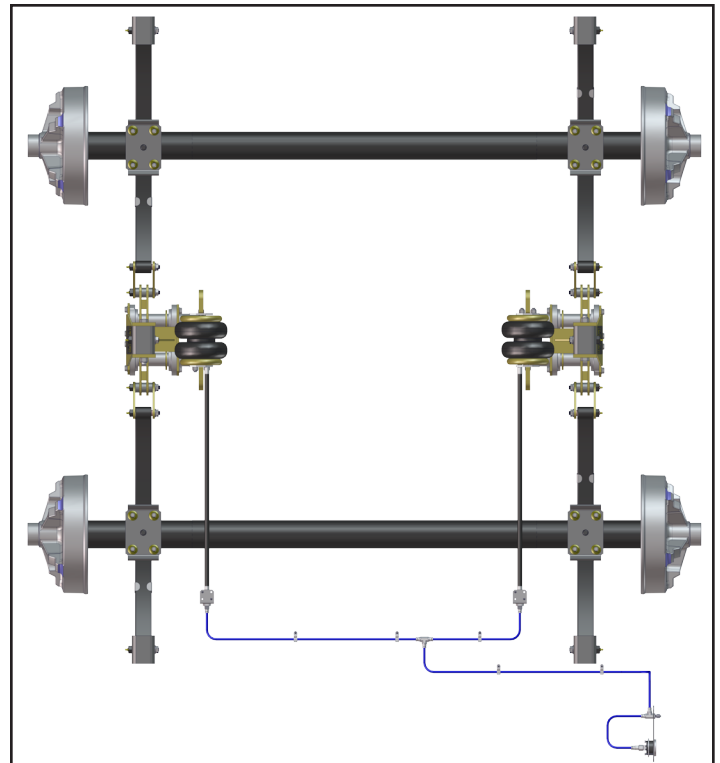
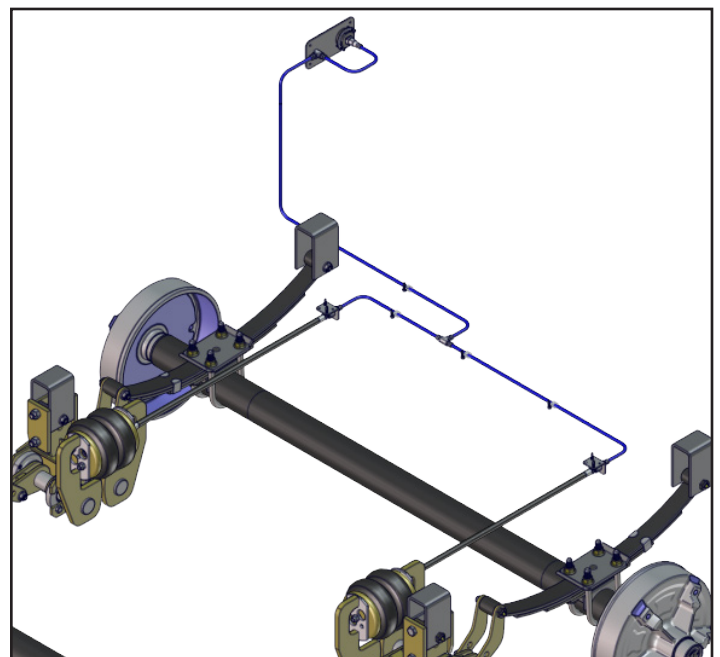

Fig.8
Fig.9
1. In order to ensure there is sufficient slack in the air hose, the clip placement is critical. The air spring will cycle forward and aft as much as 5" during the operation of the suspension in its reaction to extreme road conditions. Therefore, the clip must be secured on the frame with enough slack to allow the necessary movement. It must also be located so that the hose does not contact the air spring or any other moving parts of the suspension. There are (4) self-drilling, self-tapping screws provided to attach the clip, (2) per clip.
3. After carefully considering the placement and routing of the air lines to the desired location of the air gauge panel, the poly air lines may be installed. To assist in routing the poly air lines, there are (6) nylon clips, self-drilling/self-tapping screws and wire ties provided. A union tee is supplied for joining the two air lines under the crossmember of the coach. Please refer to **(Fig. 8)** and **(Fig. 9)** for air line supply routing guidelines.